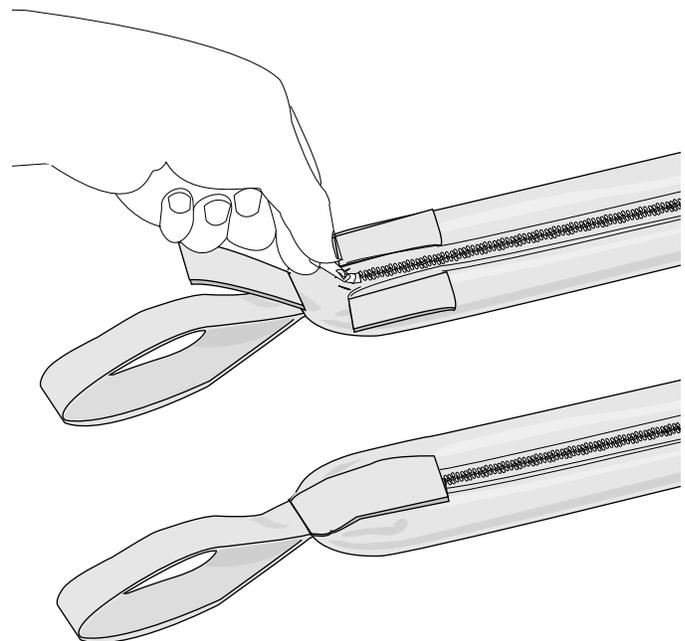

Figure 25
6.12 Slip the zippered sleeve around the grip and zip it shut (Figure 25, top). Close the sleeve's protective flaps over the zipper pull (Figure 25, lower).